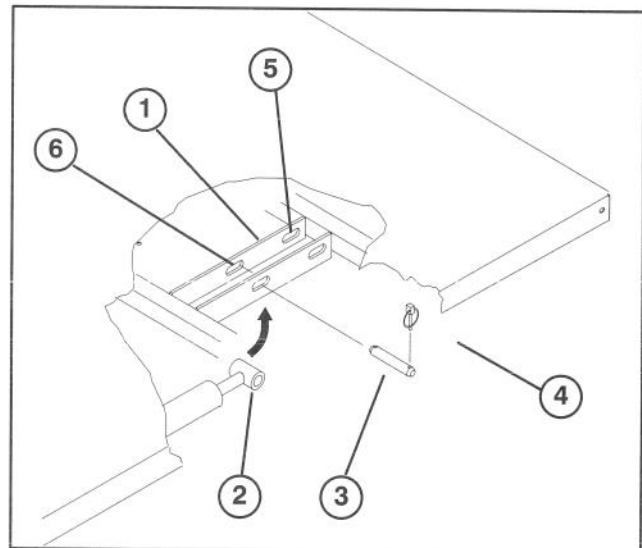

Figure 13
2. Remove lynch pins from outer ends of cylinder rod clevis pins (Fig. 13).
3. With bed lowered, secure each cylinder rod end, to appropriate slots in bed mounting plates with clevis pin and lynch pin. Insert clevis pin from outside of bed with lynch pin toward outside (Fig. 13). Rear slots are for full bed installation and front slots are for 2/3 bed installation.